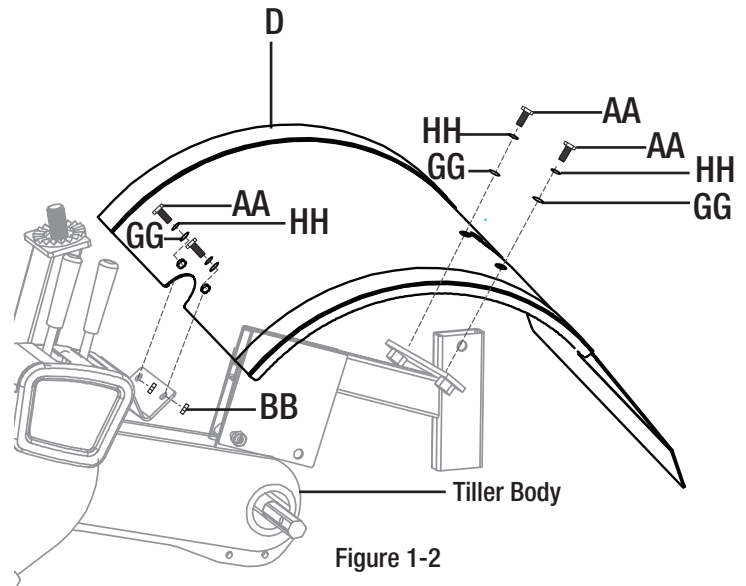

Figure 1-2
- Locate the plates with the pre-drilled holes on the rear part of the tiller body. Align the protective shield (D) holes to the plate holes. Insert M8x20 bolts (AA) with spring washers (HH) and regular washers (GG) and tighten with a wrench. The front plate requires two M8 nuts (BB) to secure. See Figure 1-2.